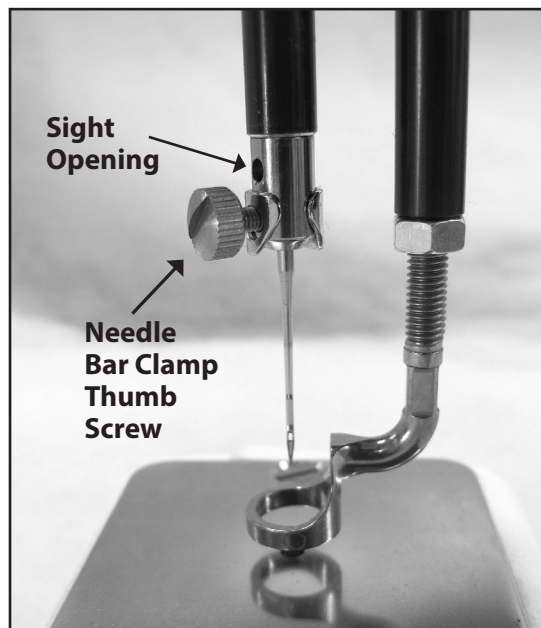

Figure 7
3. Loosen the needle bar clamp thumb screw with the disc-shaped screwdriver or fingers (see Figure 7) enough to assure that the needle can be inserted all the way up to the top of the sight hole.
4. With the scarf (small recess area on the back side of the needle just above the needle eye) facing the handwheel location of the machine, and the long groove down the front of the needle facing the bobbin case side (see Figure 7), push the needle all the way up inside the needle bar – until it can go no further. Look into the sight hole to verify that the butt of the needle reaches the top of the sight hole.